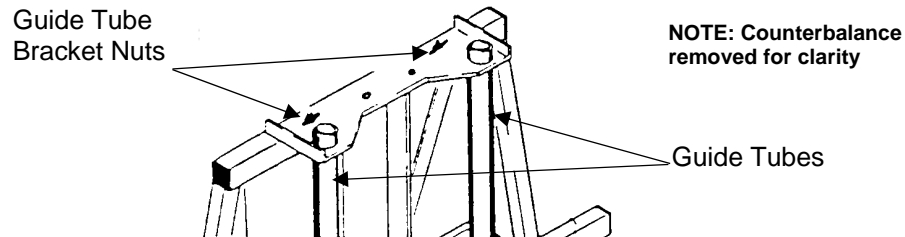

Figure 58: Aligning the Guide Tubes
1. Remove set screw, which indicates original position of guide tubes. Loosen the guide tube bracket nuts (Fig. 58), but **do not remove** the bracket. Using a dead blow mallet, strike the bracket on the side and in the direction you wish the guides to go.